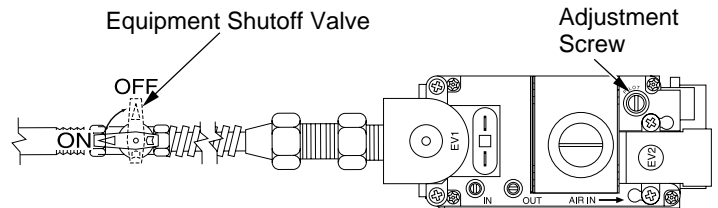

Figure 37 - Turning Equipment Shutoff Valve to the OFF Position
6. Turn equipment shutoff valve clockwise  to the OFF position (see Figure 37). Do not force.
7. Wait five (5) minutes to clear out any gas. Then smell for gas, including near the floor. If you smell gas, STOP! Follow "B" in the safety information. If you don't smell gas, go to the next step.
- Turn the adjustment screw marked PILOT clockwise to decrease or counterclockwise to increase the flame to proper size (see Figure 37, page 17). Do not remove the adjustment screw.